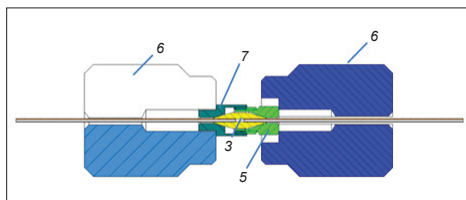

Figure 4. Section view of the SilTite™  $\mu$ -Union connection.
6. Insert the capillary into the double taper ferrule and slide the female end fitting (7) into position making sure the capillary seats inside the ferrule – there is a stop designed within the ferrule. Gently tighten the female end fitting with your fingers until you feel resistance. Locate both of the FingerTite  $\mu$ -connector male/female end fitting tools (6) and slide them over the capillary via the slot cut into the tool. Tighten the fitting to swage the ferrule into the female end fitting - do not over tighten, finger force is all that is necessary to swage the ferrule onto the capillary (see Fig. 4).